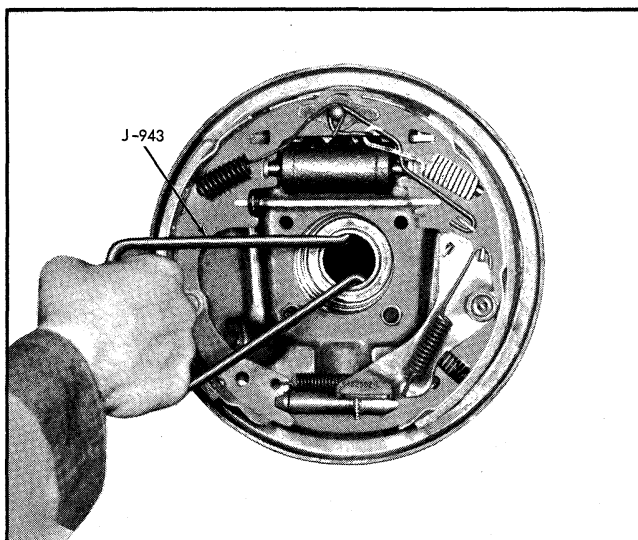

Fig. 4-14 Removing Axle Shaft Seal
1. Insert tongs J-943 (Fig. 4-14) behind seal and pull straight out to remove seal.